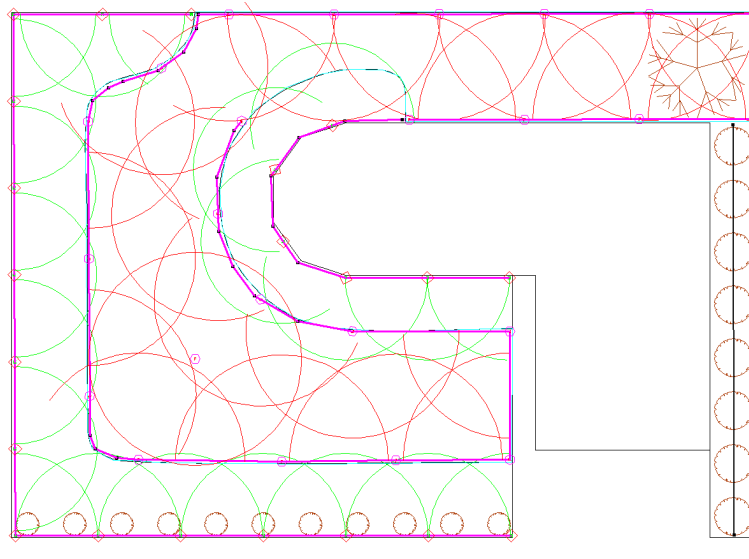

Figure 4-72
35. Select **Zone/Tape** and from the dropdown list select the **Drip Tape 0.17/100' (1.65lph)**. Set the inlet pressure to **14psi (10m)**. Do not check the “Regulated” checkbox as this tape is not pressure regulated at the inlet. Click **[OK]** and draw a tape through the line of shrubs at the right-hand side of the house, from about the middle of the bottom shrub up to the middle of the top shrub. Select **Right-click/Restart**. See Figure 4-72.